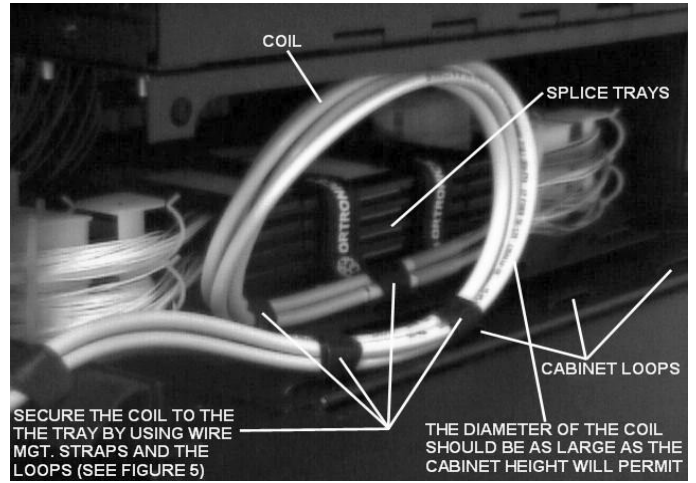

Figure 7
7.2) With the jacketed portion of the fiber, make a service coil as large as the cabinet height will permit, as shown in Figure 7. The service coil is required to allow the tray to slide out the front of the cabinet freely.